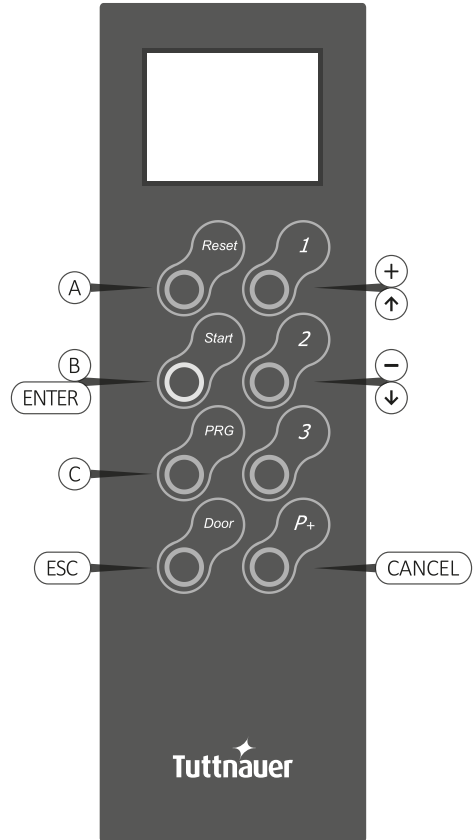

Fig. 16
- 4) Enter the password: use the key 1,2,3,A,B and C on the control panel to digit the correct password (See Fig. 16 for key description).